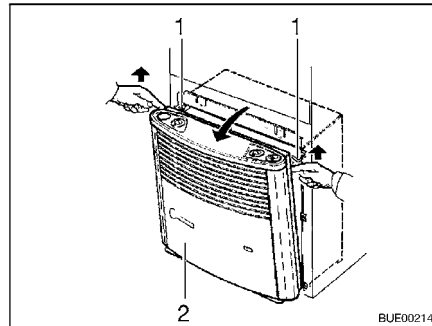

Fig. 115 Removing heater cover
- Remove heater cover (Fig. 115,2). Pull the heater cover upwards and forwards, press up the retaining springs (Fig. 115,1) to the side and tip the cover forwards.